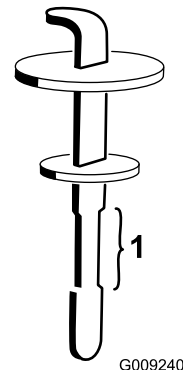

Figure 121
5. Remove the dipstick from the filler neck and wipe it with a clean rag. Insert the dipstick into the filler neck, then remove it and check the fluid level (Figure 121).